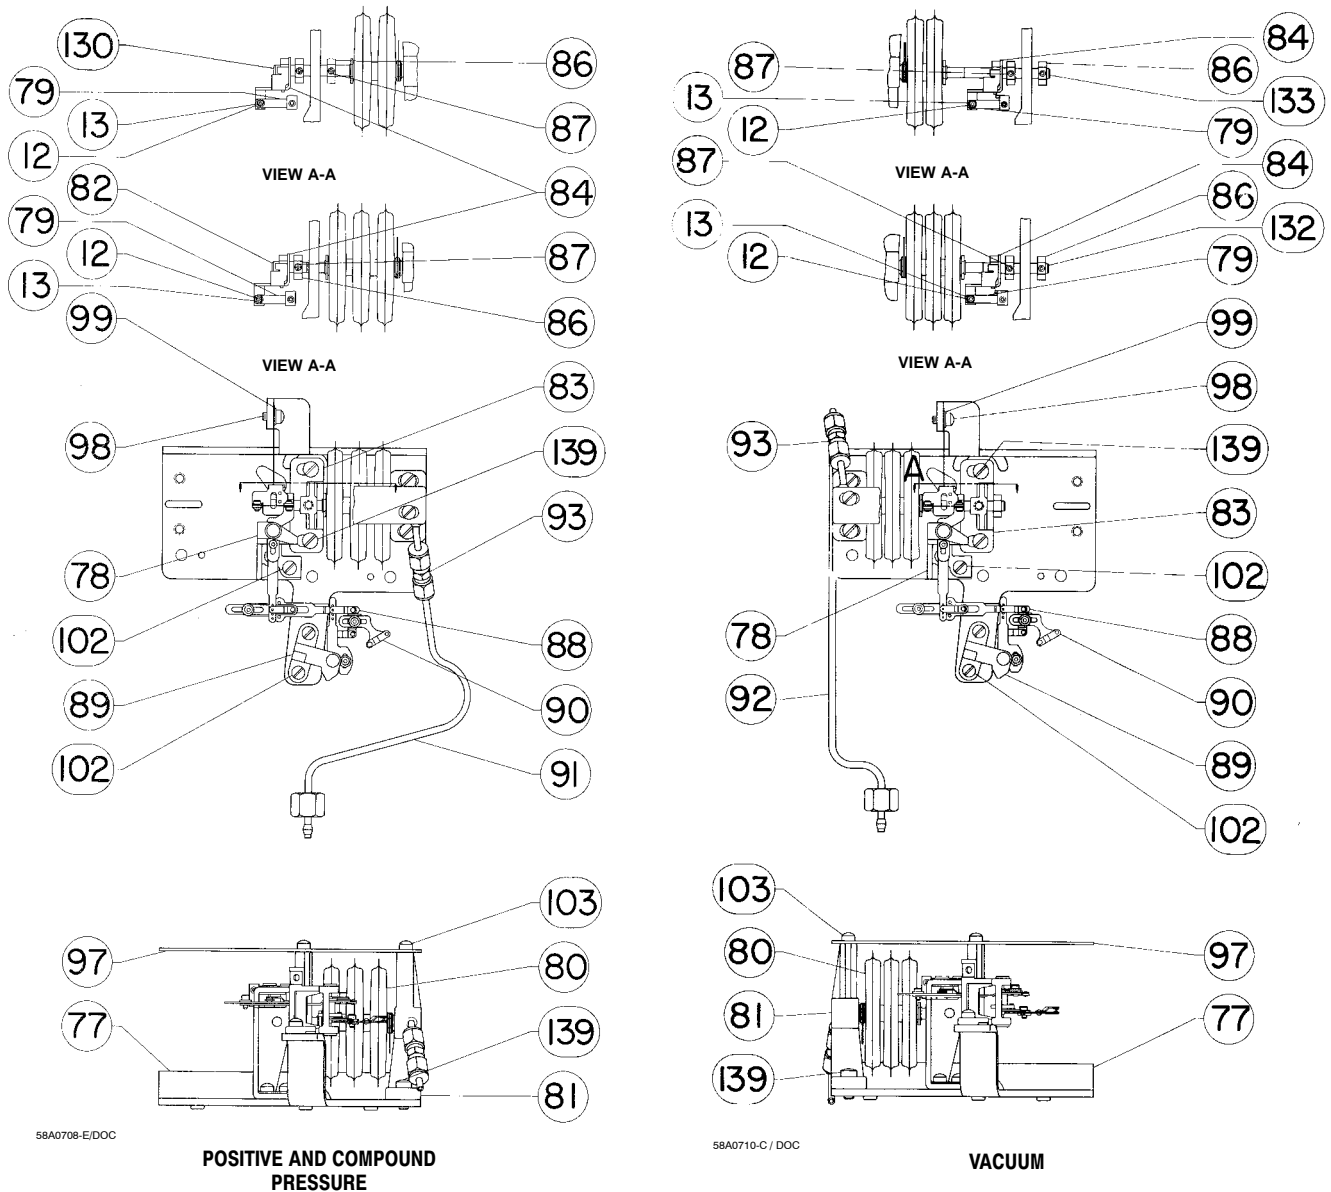

Figure 7-5. Capsular Element Assembly
### Capsular Element Assembly (key 113) (figure 7-5)